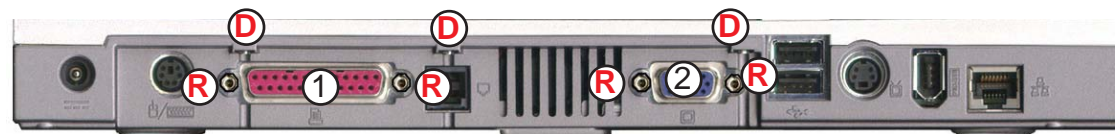

figure 2-15
4. Remove the hex nuts (R) on the parallel port (figure 2-15).
5. Remove the hex nuts (R) on the monitor out port (figure 2-15).
6. Remove screws (D) just above the ports (figure 2-15).